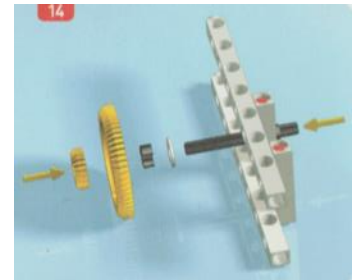

Figure 6: Second Gear Assembly
**Use Figure 6 for steps 18-22.**